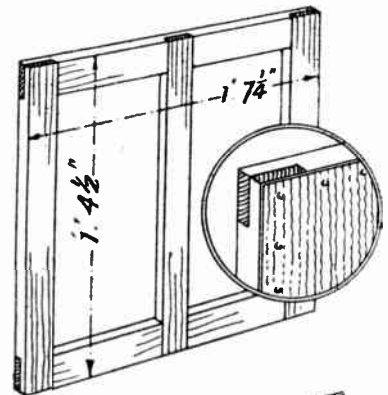

Fig. 4—Dimensions of the back frame
The frame forming the back of the house is shown in Fig. 4. Here again the simple halving joint is used and further explanation need hardly be given. The enlarged detail in Fig. 4 shows exactly how the felt or Ruberoid will be nailed on. The back frame, when completed, will butt on to the edges of the uprights (D) (see Fig. 1) and will be either nailed or screwed.